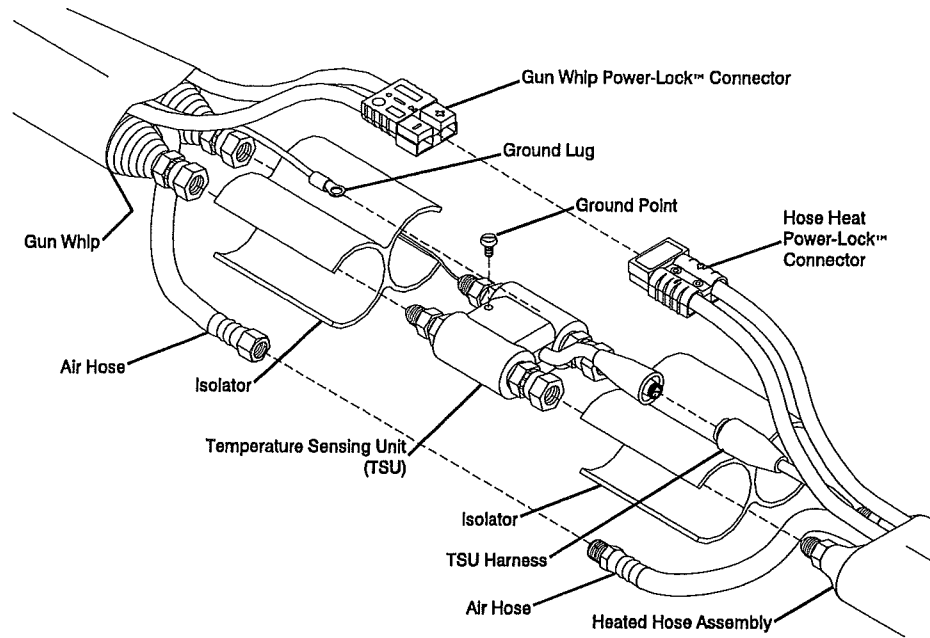

Figure 11. Temperature Sensing Unit (TSU)
- 5. Install the temperature sensing unit (TSU) to the gun whip hose as follows: (See to Figure 11.)